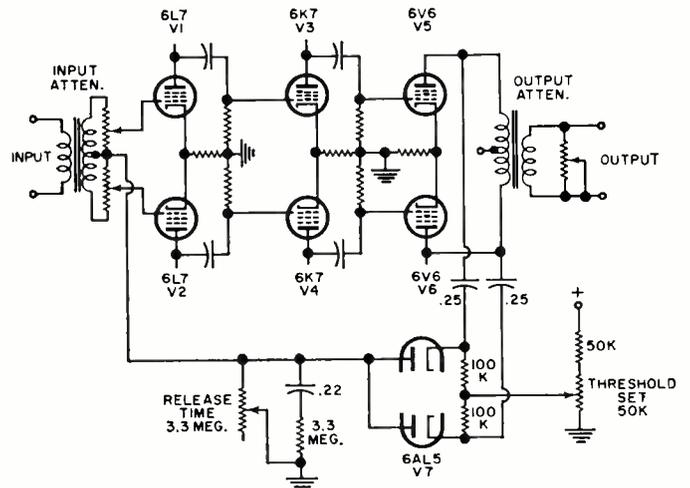

Fig. 2. Conventional peak-limiter circuit is all push-pull.
*The standard limiter.* Fig. 2 illustrates the circuit, push-pull throughout. The first stage is variable-gain, the other two are fixed gain. The output signal is rectified by control diodes V7 (made full-wave to provide limiting even on asymmetrical waveforms) and the resultant d.c. furnishes control bias for the first stage. To establish a limiting threshold, V7 receives cathode bias so it won't conduct until signal exceeds this value. Below threshold, all signals are amplified linearly. An RC network in the control-voltage line sets attack and release times.